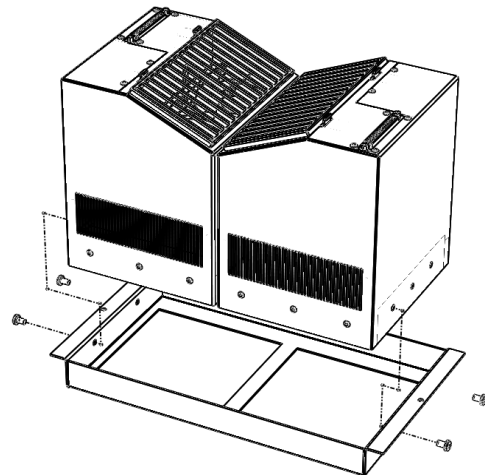

Figure 7. Two Arrays Mounted to Cradle Adapter Plate
- c) Mount the two LED Arrays to each side of the Cradle Adapter Plate using four M5 x 8-mm screws (Figure 7).